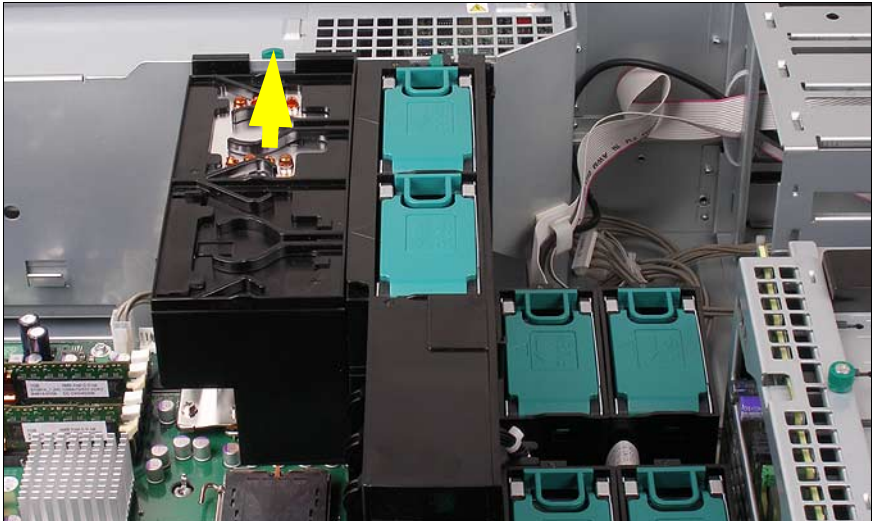

Figure 18: Removing the heat sink holder
- ▶ Remove the heat sink holder (see figure 18 on page 33):